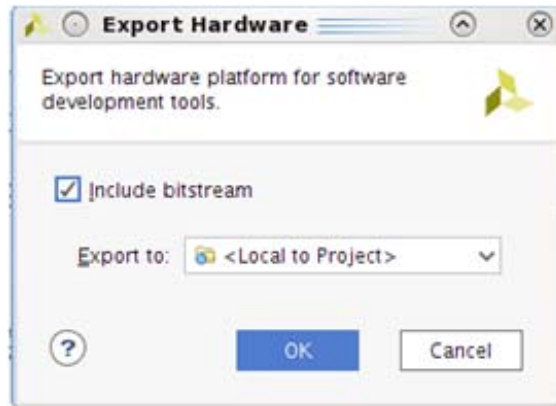

Figure 5-11: Export Hardware
12. Ensure the **Include bitstream** is enabled and click **OK** (use the default **Export Location** **<Local to Project>**) (Figure 5-11).